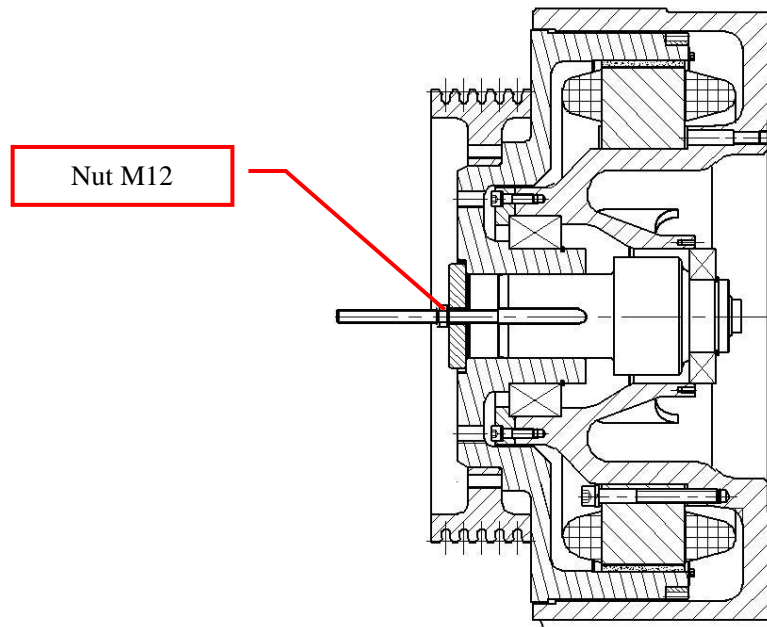

Figure 53: Tighten pressing plate
4. Tighten the nut M12 with open end wrench (18mm) slowly to pull the main shaft components, make sure that the main shaft components are installed in place. See Figure 53.